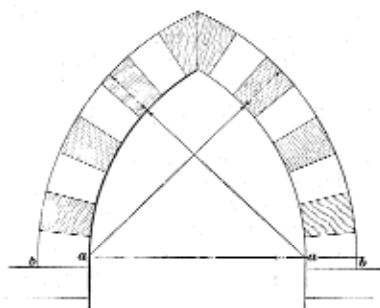
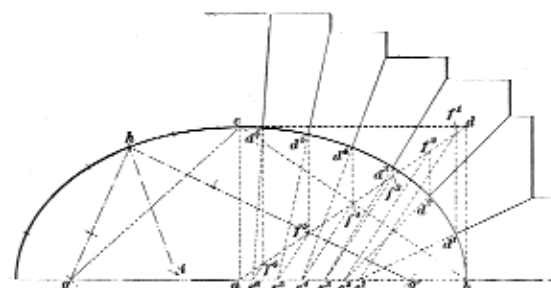

FIG. 51.
FIG. 55.
the intrados is generally an arc of large radius, less than a semicircle. Sometimes the curve is composed of arcs of two or three different radii, in which case it is termed a *three or four centered arch*. The upper part of such an arch has a long radius, while the portions near the springing line have short and equal radii. This arch is nearly elliptic in form, and is often so known. The true ellipse is also used, an example being given in Fig. 55. Examples of segmental and three centered arches are given under the heading "Brick Arches," *Masonry*, §7. The *pointed* arch has its intrados formed of two arcs of equal radius, intersecting at the crown. The *equilateral* pointed arch is one in which the radii of the intrados are equal to the span, as shown in Fig. 51. There are numerous other forms of arches, but it is unnecessary to describe them all, on account of the general similarity between them and those already mentioned.
96. Fig. 51 gives an example of a Gothic, or pointed equilateral arch, with the intrados and extrados concentric.
100. A method of finding the voussoir joints in a true elliptical arch is given in Fig. 55. This shows  $d', d', d', d'$ ,